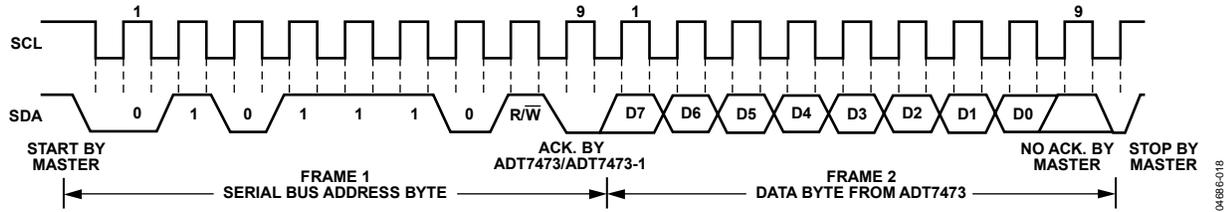

Figure 21. Reading Data from a Previously Selected Register
A read operation is then performed consisting of the serial bus address,  $\overline{R/\overline{W}}$  bit set to 1, followed by the data byte read from the data register. This is shown in Figure 21.
- If the address pointer register is known to be already at the desired address, data can be read from the corresponding data register without first writing to the address pointer register, as shown in Figure 21.